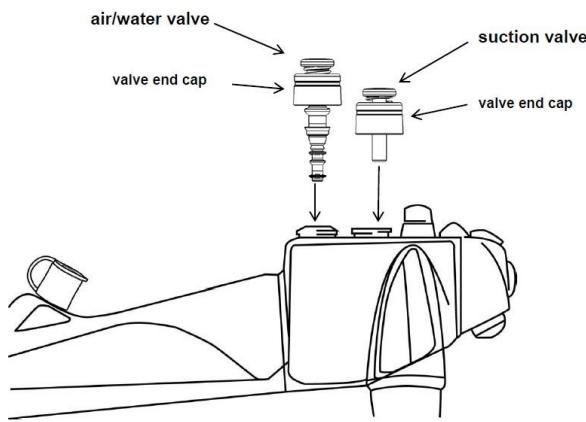

Figure 1
- 4) Insert the suction valve into suction cylinder of an Olympus®/Fujinon®/Pentax® endoscope (see Figure 1).
- 8) Insert the air/water valve into the air/water cylinder of an Olympus®/Fujinon®/Pentax® endoscope (see Figure 1).